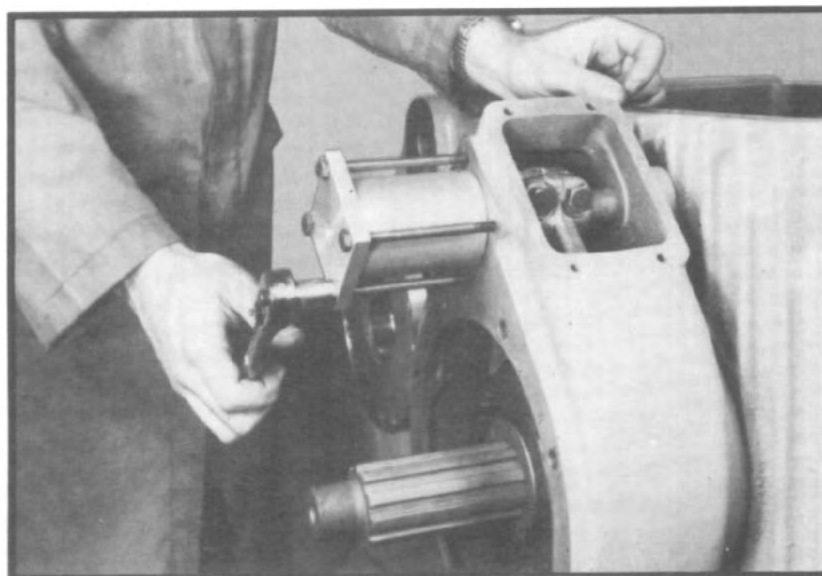

Fig. 169
14. Install cylinder cap on cylinder tube with four long capscrews, tightening to correct torque. Tighten capscrews evenly to prevent cocking the cylinder cap. (See fig. 169.)